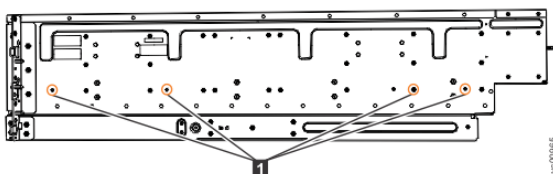

Figure 40. Screw locations to attach the inner rail to the enclosure
4. Use four M4 screws to attach the inner rail to the side of the enclosure. Figure 40 on page 82 shows the screw locations.